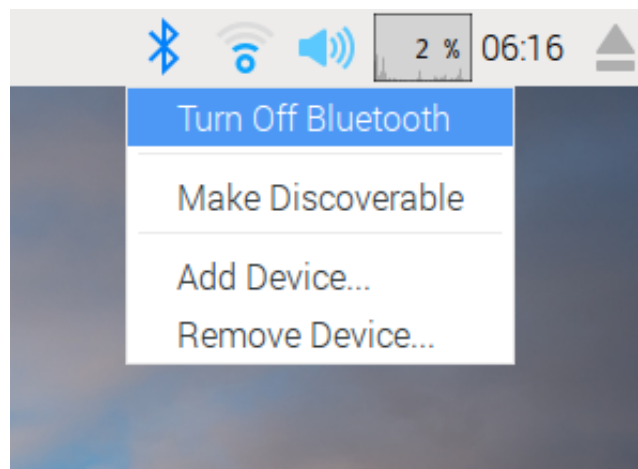

Figure 3: Switch off the Bluetooth® and connect to internet via WiFi
3. After booting the Raspberry Pi, switch off the Bluetooth® interface by clicking on the Bluetooth® button on the right upper corner of the screen (see figure 3). Otherwise it is not possible to use the UART interface of the Raspberry Pi.